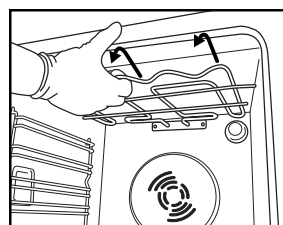
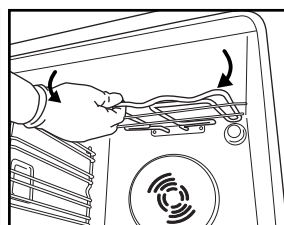

Fig. 6
Fig. 7
2. Pull the heating element out a little (Fig. 6) and lower it (Fig. 7).